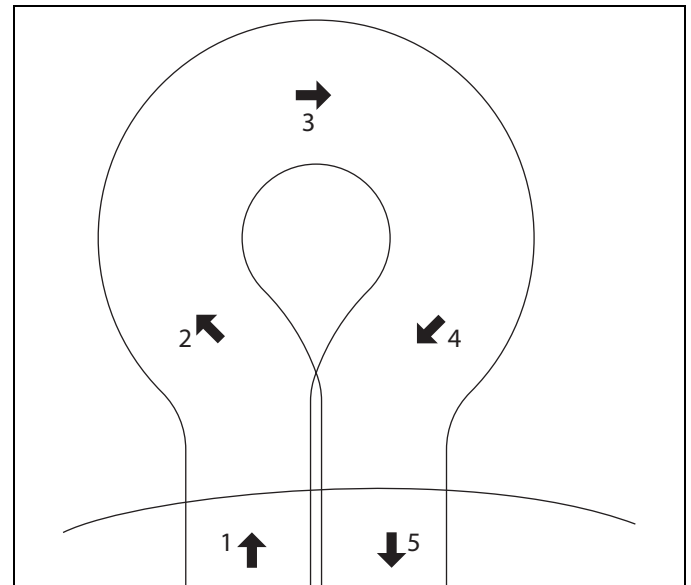

Figure 5C
- e. To turn to the right, start by turning mower slightly to the left **(2)**. When the mower has moved approximately 1/2 its own width to the left, swing it around quickly to the right **(3 and 4)**, guiding the mower with your right hand. This method makes it possible to turn around quickly with very few steps. **[Figure 5C]**